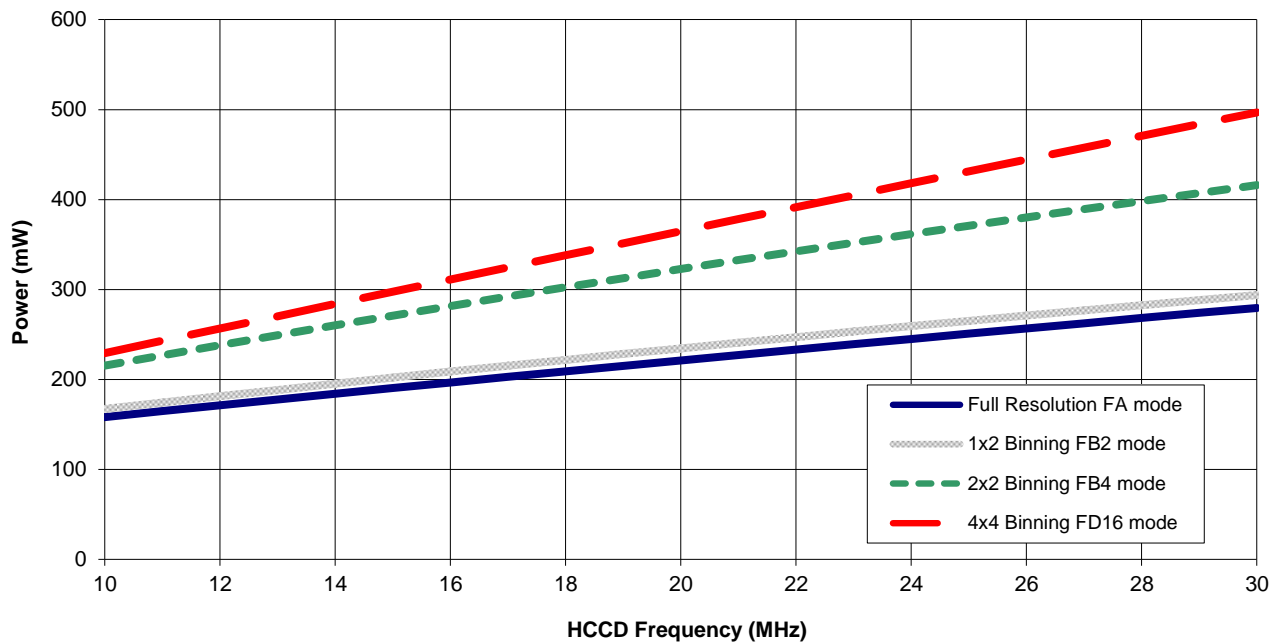

Figure 8: Power vs. Clock Rate
1. An output load sink must be applied to VOUT to activate output amplifier. See Figure 8.
2. VESD should tie directly to Vertical Low (VL) clock driver bias level.